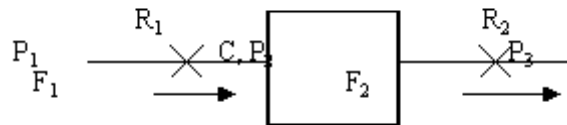

Figure 1:
1. In the following figure1, P_1, P_2 and P_3 refer to changes in the pressures upstream, in the tank and downstream respectively and the flows into and out of the tank are influenced by the tank pressure.